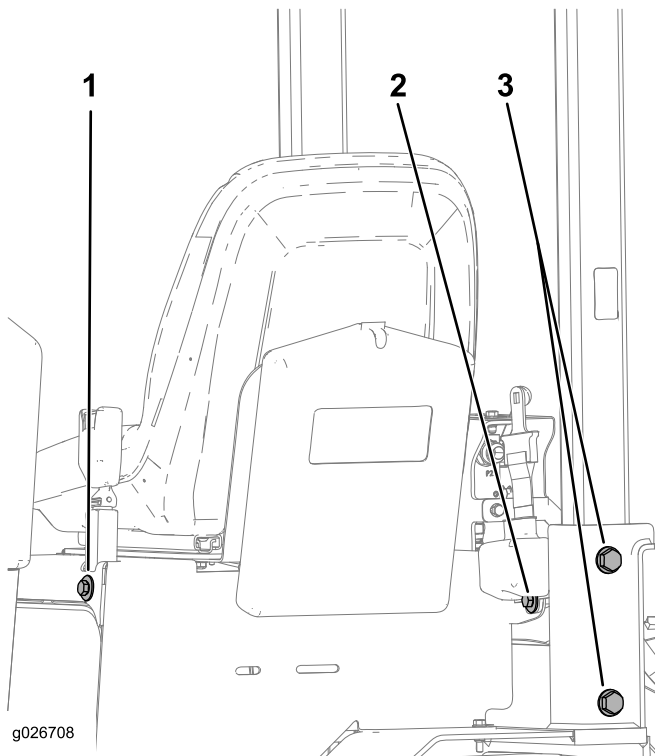

Figure 49
1. Check that the 4 bolts that secure the ROPS bar to the chassis of the machine are torqued to 203 to 223 N·m (150 to 165 ft-lb); refer to Figure 49.
2. Check that the bolts and nuts that attach the seat-belt retractor and buckle to the seat are torqued to 104 to 115 N·m (77 to 85 ft-lb); refer to Figure 49.